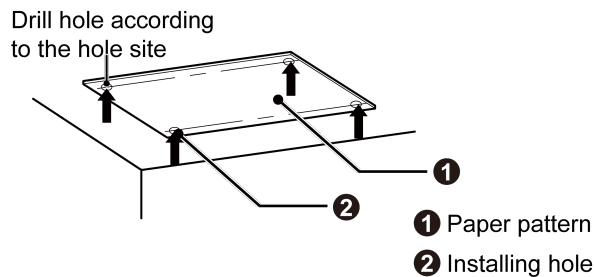
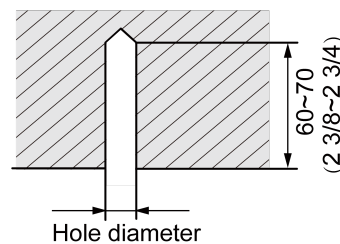

Fig.4.1.2
Fig.4.1.3
- 1) Stick the reference cardboard on the installation position; drill 4 holes according to the hole site on the cardboard as shown in Fig.4.1.2; diameter of drilling hole is according to the diameter of expansion bolt and the depth is 60-70mm (2-3/8~2-3/4 inch), as shown in Fig.4.1.3.